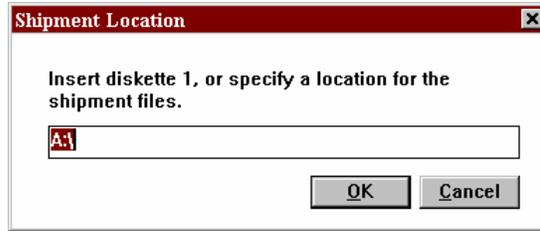

Figure 31 - Shipment Location dialog
- 5) Press the **S**end button and the program will prompt you for a diskette (Figure 31).